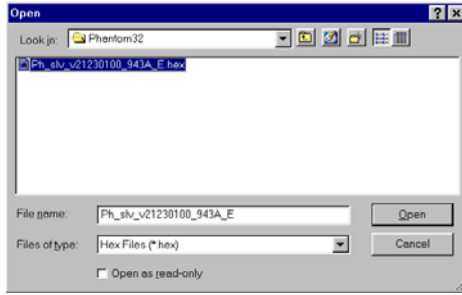

Figure 33 The Mask for a Remote computer
4. From the **File** menu, choose **Open**. The **Open** box appears. See Figure 33.